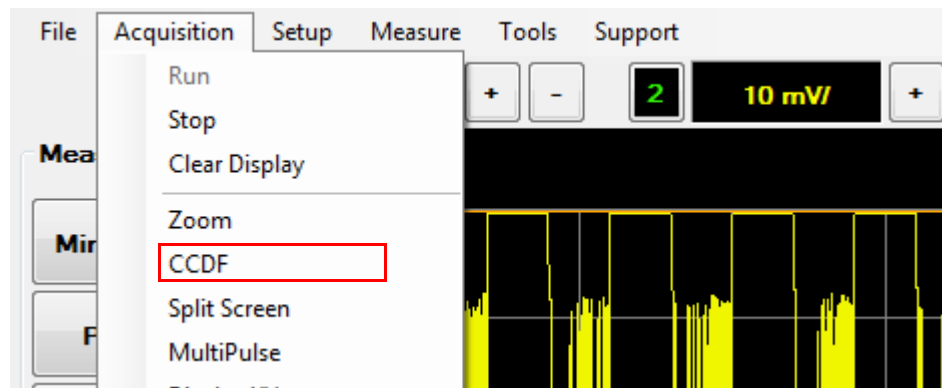

Figure 2-82 CCDF selection in the Acquisition menu
- 1 Select **Acquisition > CCDF** on the toolbar as shown in Figure 2-82.